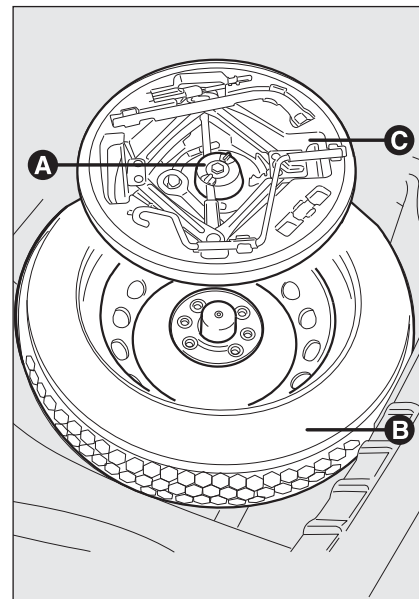

fig. 2
- unscrew the locking device **A**-fig. 2;
- take out the tool container **C**-fig. 2 and put it alongside the wheel to be changed;
- take out the spare wheel **B**-fig. 2;
- put the jack back in its container **C-fig. 2** partially open by forcing it slightly against the container walls to prevent it from rattling around when travelling;
- stow the container **C-fig. 2**, complete with tools, inside the spare wheel;
- tighten the tool container clamping device **A-fig. 2**;